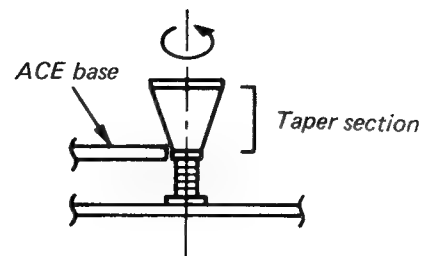

Fig. 1-4-14 Taper nut and ACE base
- c.4) Turn the taper nut counterclockwise until the ACE base reaches the lower taper end of the taper nut as shown in Fig. 1-4-14.